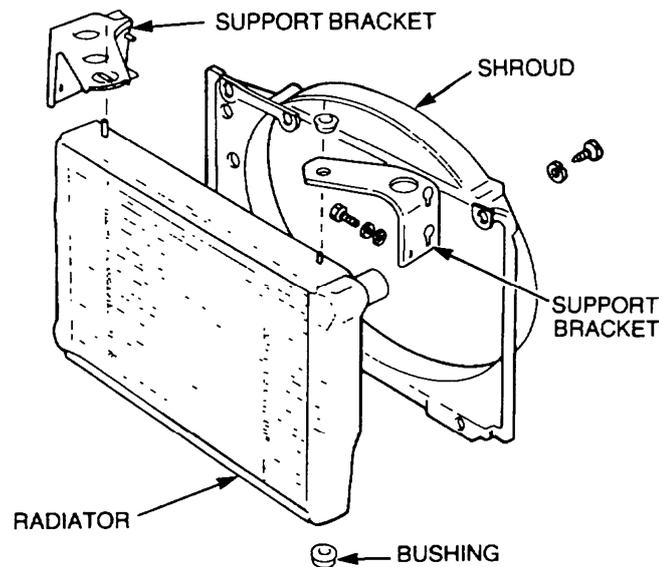

Figure 19 Radiator Assembly Exploded View
- d. Remove the screws and washers securing the shroud to the radiator and move the shroud towards the engine (Figure 19).